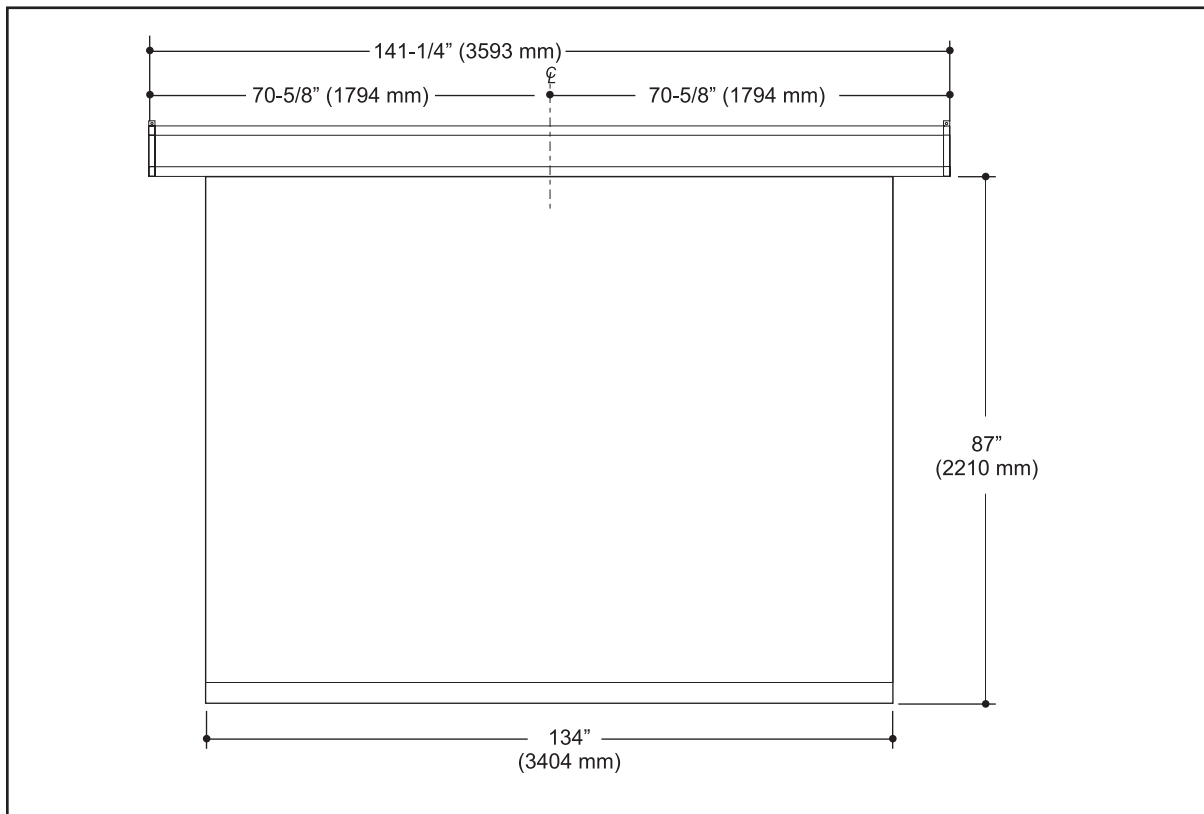

Figure 61
2. Determine screen location, and mark center line of screen on the support structure. From the mark on the structure measure 70-5/8" (1794 mm) in both directions and mark for projection screen cables. Refer to *Figure 61*.